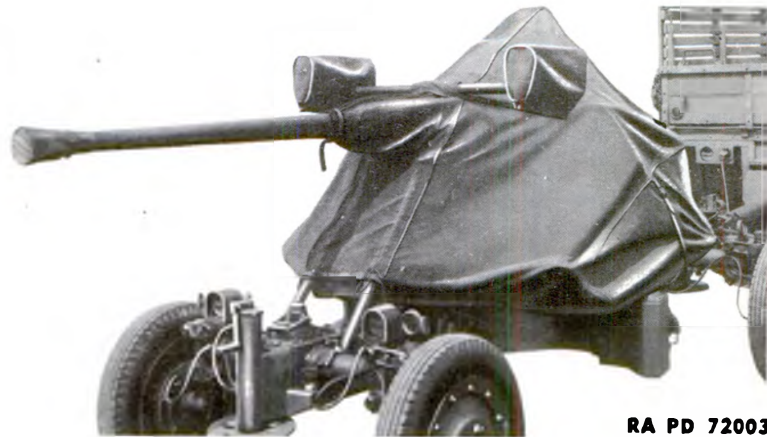

Figure 107 – Weapon in Traveling Position – Covers in Place
g. After replacing the carriage cover and right and left sight covers, unlock, close, and lock the outriggers. Replace the outrigger hinge covers (fig. 107).
**40-MM AUTOMATIC GUN M1 (AA) AND 40-MM ANTI-AIRCRAFT